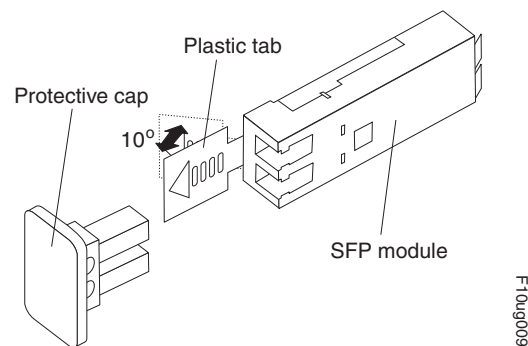

Figure 88. Unlocking the SFP module latch - plastic variety
- For SFP modules that contain plastic tabs, unlock the SFP module latch by pulling the plastic tab outward 10°, as shown in Figure 88.